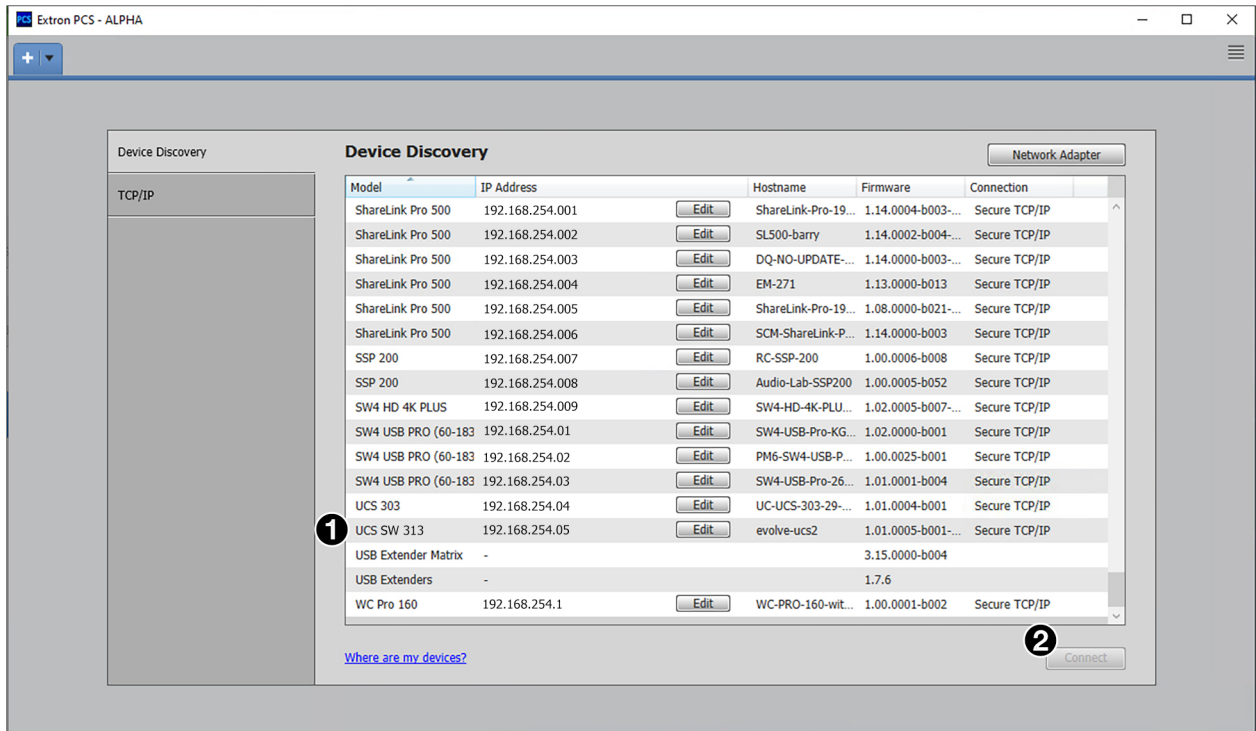

Figure 19. Device Discovery Panel on PCS Connection Screen
2. In the Device Discovery panel of the PCS window, click on the name of your UCS SW 313 (see figure 19, ①). (You may need to scroll to locate it, depending on the number of devices listed.) The **Connect** button (②) becomes available.
- Click **Connect** (see figure 19, 2 on page 41), or double-click on the UCS name in the Device Discovery list. If the unit has a password defined, the following prompt opens: